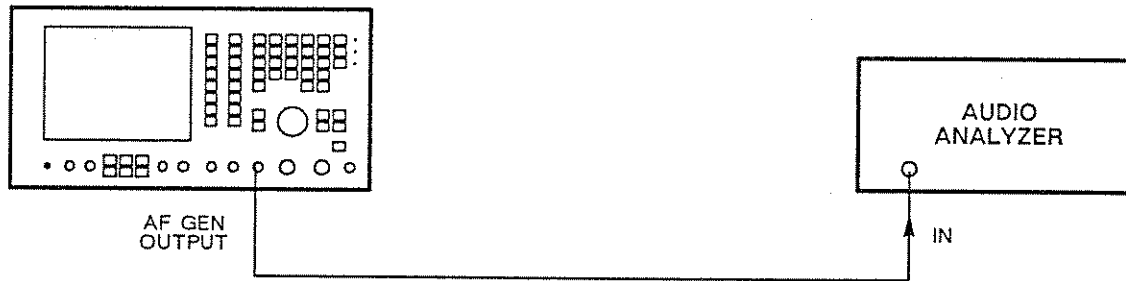

Fig. 6-16 Test equipment connections for AF generator residual noise
- (1) Connect the audio analyzer to the AF GEN OUTPUT socket. See Fig. 6-16.
- (2) On the 2955B, set the MODE to AUDIO TEST. Ensure that GEN 1 is ON and GEN 2 is OFF. Press the TONES and AUDIO SETUP keys. Set the GEN 1 FREQ to 50 kHz, LEVEL to 0 mV and SHAPE to SINE.
- (3) Set the audio analyzer to AC level with the psophometric band-pass filter on and all other filters off.
- (4) On the audio analyzer, check that the AC level reading is <0.1 mV RMS.
- (5) Reset the GEN 1 FREQ to other frequencies between 50 Hz and 15 kHz and repeat (4).